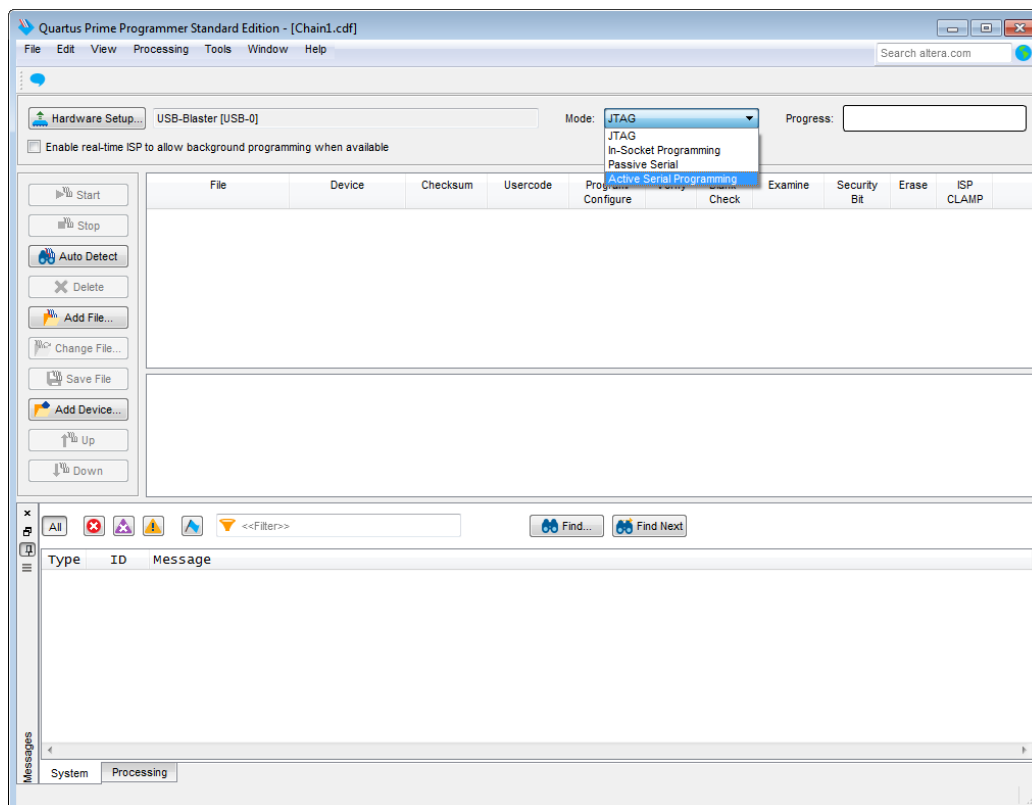

Figure 3 : Quartus – Choosing Programming mode
2. Choose “Active Serial Programming” from the Programming “Mode” Selecting bar, as shown in Figure 3.